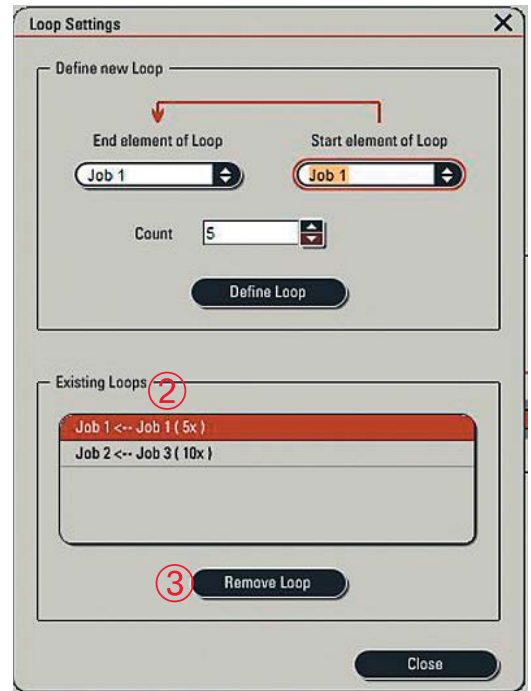

Fig. 13b: Selection of a loop for deletion
For removing a loop it has to be selected in the list of existing loops (2) followed by a click on the button **Remove Loop (3)** (Fig. 13b).